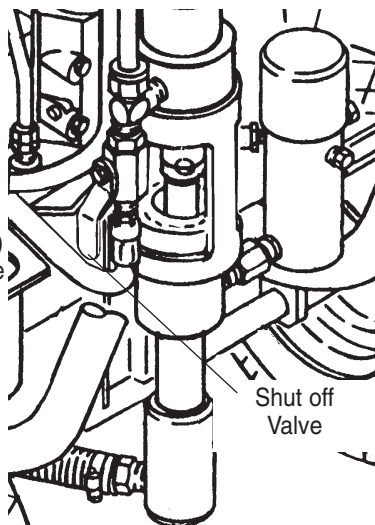

Figure 3
4. Open the orange handle shut-off valve located on the hydraulic pressure hose. Handle should be in line with hose. Figure 3 shows the handle in the open position.
5. Turn the Pressure Adjustment Knob counterclockwise (as viewed from top) to lowest pressure setting. See Figure 3.